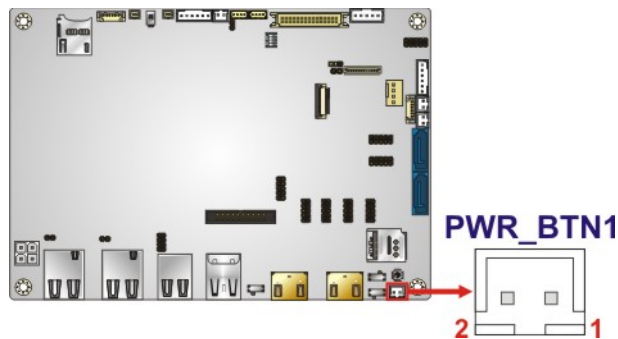

Figure 3-22: Power Button Connector Location
- CN Location:** See Figure 3-22